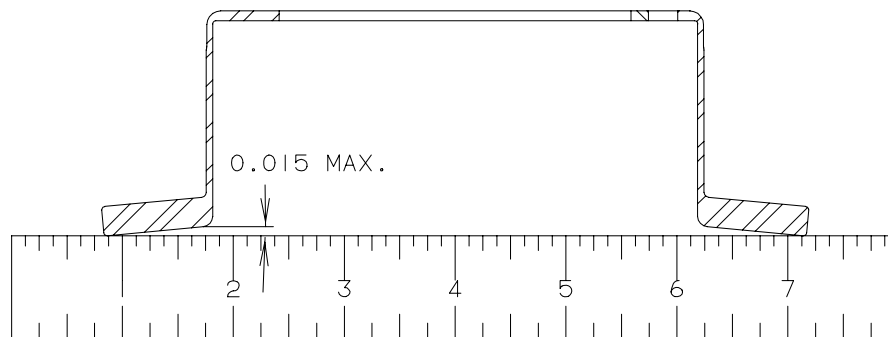

Figure 309 - Disc Coning Limits
- (2) Inspect wheel bearing grease for contamination and solidification at each periodic inspection. Repack bearings with fresh grease – Refer to paragraph 3.A. Bearing Grease.
- (3) Inspect wheel half bearing cup bore for burrs, primer residue, or foreign matter. Make sure surface is clean.
- (4) Inspect snap rings and grease seals for distortion or wear. Replace grease seal felts if they are hard or contaminated. Lightly coat all surfaces of the new felt with the wheel bearing grease (refer to paragraph 3.A. Bearing Grease). Molded rubber grease seals should be replaced if cracked, dried out or distorted.
- (5) Wheel tie bolts by nature of their application are subjected to fatigue type loads. It is best to replace these fasteners at overhaul. If bolts are to be reused they must be inspected for cracks, bending, thread damage, or excessive corrosion. Bolts with evidence of any of these should be replaced with bolts of corresponding part numbers, as specified in the Cleveland Parts List or Catalog. Magnetic particle inspection is the recommended procedure for bolt inspection. Alternate nondestructive inspection techniques, such as ultrasonic inspection, can demonstrate determination of non-airworthy ferromagnetic products consistent with the fluorescent magnetic particle methods. Cleveland typically uses AN, MS, and NAS bolts which, as part of the procurement specification, employ the fluorescent magnetic particle inspection as one of the recognized standards in determining acceptance of product. Therefore, the acceptance standards and methodologies for the ultrasonic inspection techniques have not been specifically developed at Cleveland. Use of the ultrasonic method or any other inspection techniques is the responsibility of the agency determining airworthiness of the product.
- (6) Replace o-rings with o-rings of corresponding part numbers. If necessary, o-rings may be reused. Inspect o-rings for cuts, nicks, distortion, or excessive wear. Check to be sure o-ring has not become brittle or hard.
- (7) Inspect brake disc for cracks, excessive wear, or scoring, mounting hole elongation, corrosion, and warpage. Remove corrosion and blend out small nicks using fine (400 grit) sandpaper. Replace brake disc if worn below wear limits detailed in Appendix A. Coning of disc in excess of 0.015 inch (0.381 mm) is cause for replacement. Ref. Figure 309.